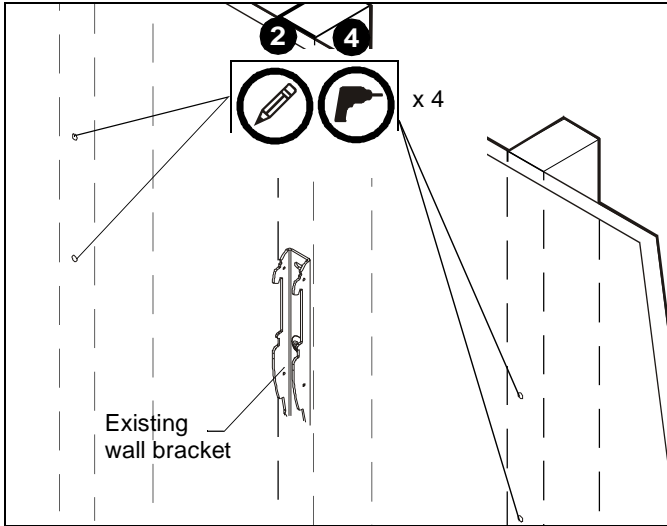

Figure 3
2. Using wall bracket (L) as a template, line up holes on wall bracket with center of studs at desired mounting location. Mark two holes at holes in bracket ensuring holes are at center of stud. (See Figure 3)
3. Using a level, mark holes for second wall bracket (L) on opposite side of existing wall bracket.
4. Drill four 7/32" holes at marked locations in wall. (See Figure 3)